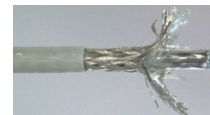

Figure 2b
- 2) Flare the braid ends out, keeping at least half the braid weave intact (Fig. 2a). Fold all braids back to expose foil, maintaining braid weave as intact as possible (Fig. 2b).